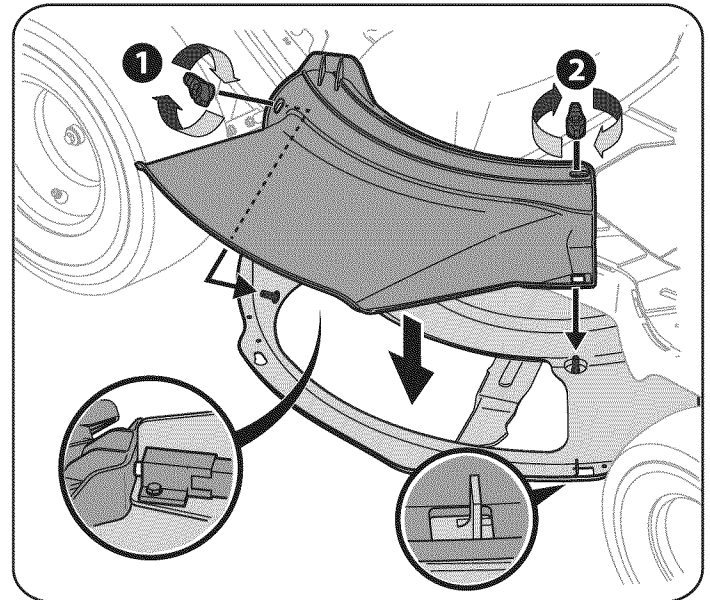

Figure 10
2. Install the deck chute into the deck discharge opening on the deck. The studs on the deck surface will fit through the holes on the upper portion of the deck chute. The small tab on the deck lip area will fit through the square cutout on the lower portion of the deck chute. See inset of Figure 10.
3. Secure the deck chute by tightening the wing knobs removed earlier. See Figure 10.